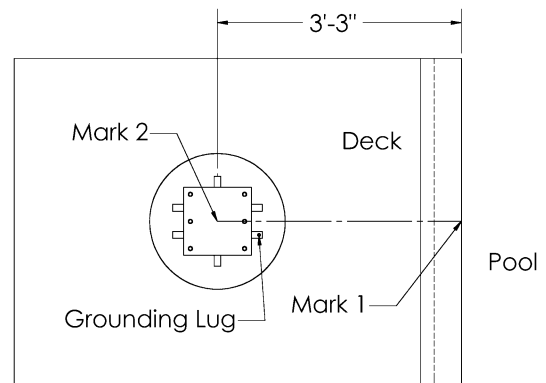

Figure 2
Step 1: Determine where on the pool deck you want your guard chair to be. Make a mark on the deck edge at the selected location. Next, make a mark at the anchor location of the guard chair. **Figure 2** can be used as a reference.